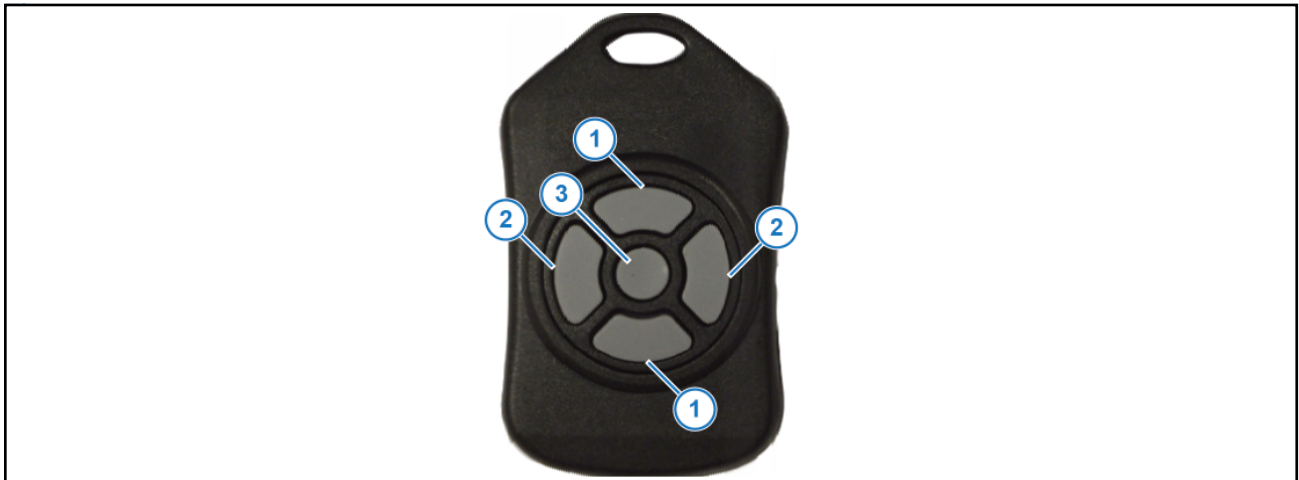

Figure 33: Key Fob
3. Press the top/bottom buttons (Figure 33, Item 1) on the key fob to turn on/off each boom section. Make sure that each boom section is spraying in the correct order.
4. Press the right/left buttons (Figure 33, Item 2) on the key fob to turn on/off each individual nozzle valve. Make sure that each nozzle valve is spraying in the correct order.
5. Press the center button (Figure 33, Item 3) on the key fob to turn off the whole boom.